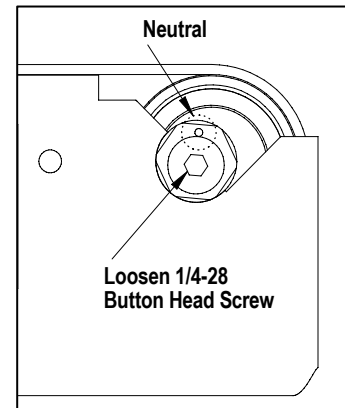

Figure 2
a. To track the Tail End, first loosen the 1/4-28 Button Head Socket Cap Screw which secures the Eccentric Bushing with a 5/16" Wrench (**Figure 2**).